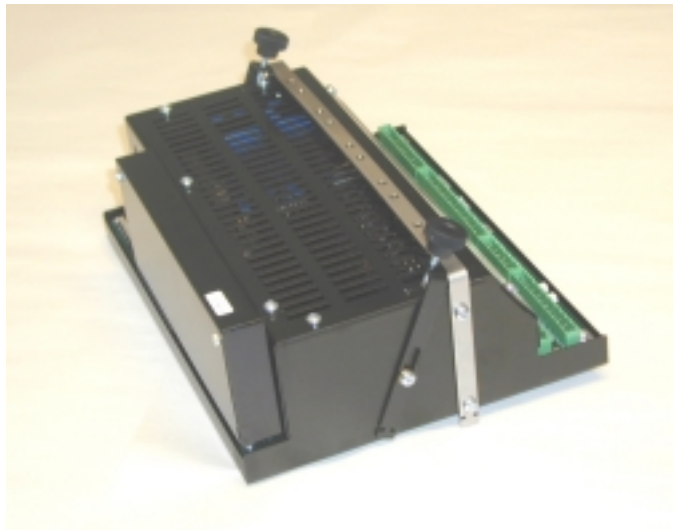

Figure 2
3. Install the SmarTac “Add on” unit on the PIB, see Figure 2.